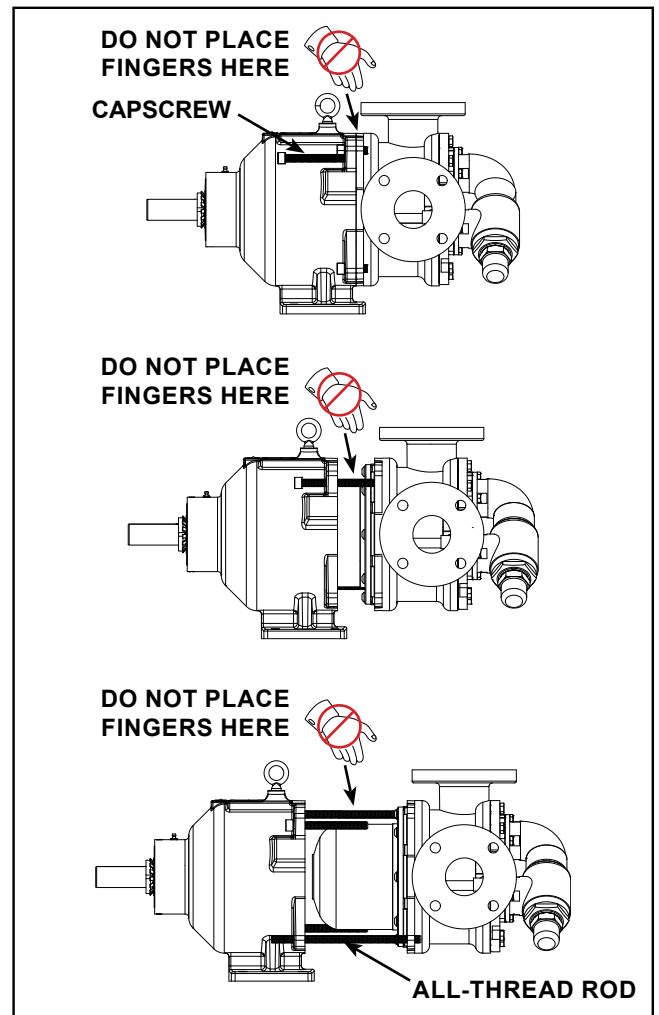

FIGURE 7
3. Mark the head (40) and casing (31) before disassembly to insure proper reassembly.
4. To inspect the head and pin assembly (39 and 40) and idler and bushing assembly (37 and 38), remove the head capscrews (43).
5. Remove the head from the pump. If the casing was not drained in Step 1, be careful of the liquid draining out between the head and casing. Do not allow the idler to fall from the idler pin. Tilt the top of the pump head back during removal to prevent this. Avoid damaging the head shim set (63) since all shims are required to maintain end clearance.
7. Remove the four socket head capscrews (28) securing the pump to the bracket. Support the pump with an overhead hoist, if possible.
8. Use the jackscrews (14) in the bracket to separate the inner magnet (57) from the outer magnet (58), see sequence in **Figure 7**. To keep the pump and bracket assemblies properly aligned and for additional safety, it is recommended to use 2 lengths of all-thread rod (6-8”) threaded into diagonal capscrew locations in the adaptor plate and slide through the corresponding holes in the bracket.